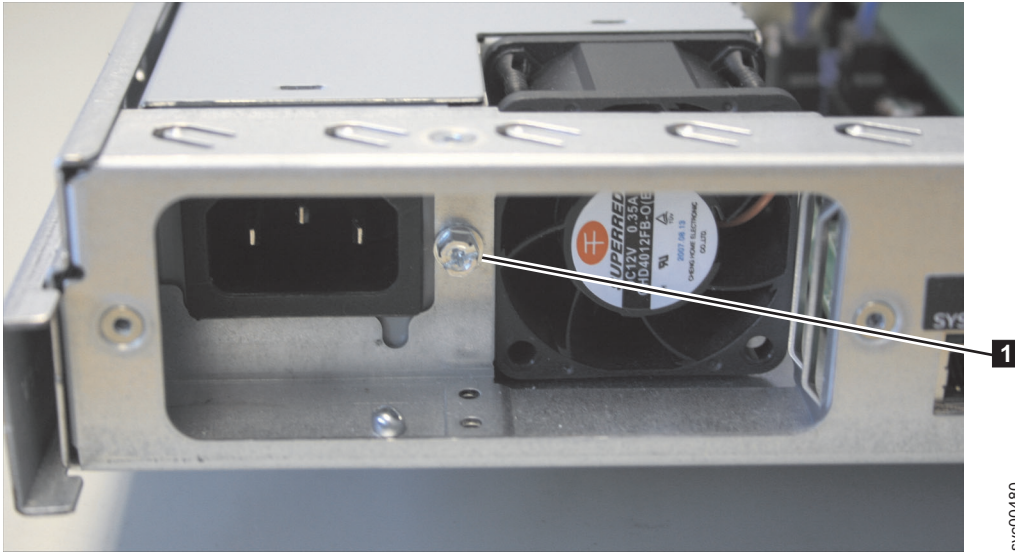

Figure 26. Retaining screw on the SAN Volume Controller 2145-8A4 node
2. Unscrew the retaining screw **1** that is located next to the power cable socket three full turns, but do not fully remove the screw, as shown in Figure 26 on page 42.